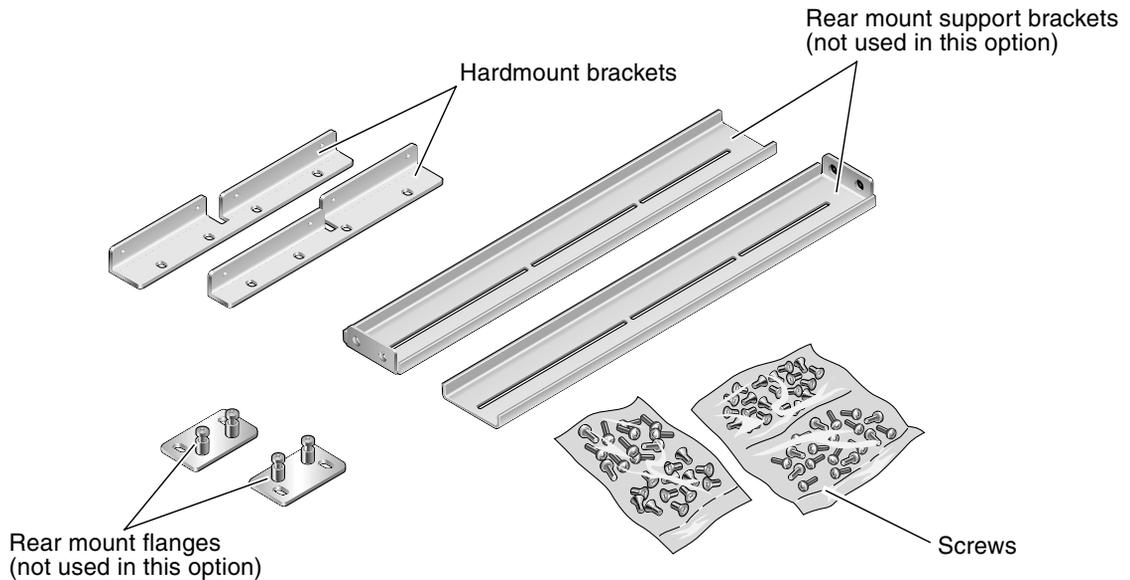

FIGURE 3-24 Contents of the Hardmount 19-Inch 4-Post Kit
1. Get the side brackets from the rack kit (FIGURE 3-24).